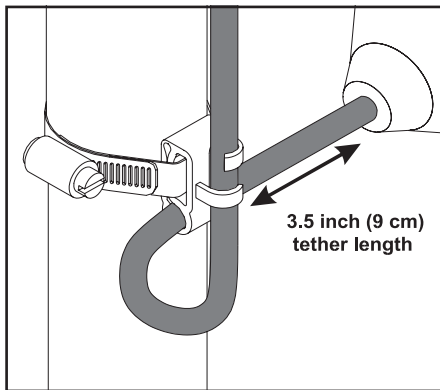

FIGURE 2
4. Place the cord into the clamp as shown in **Figure 2**.
5. Locate the clamp at the desired activation level and secure the clamp to the discharge pipe as shown in **Figure 2**.